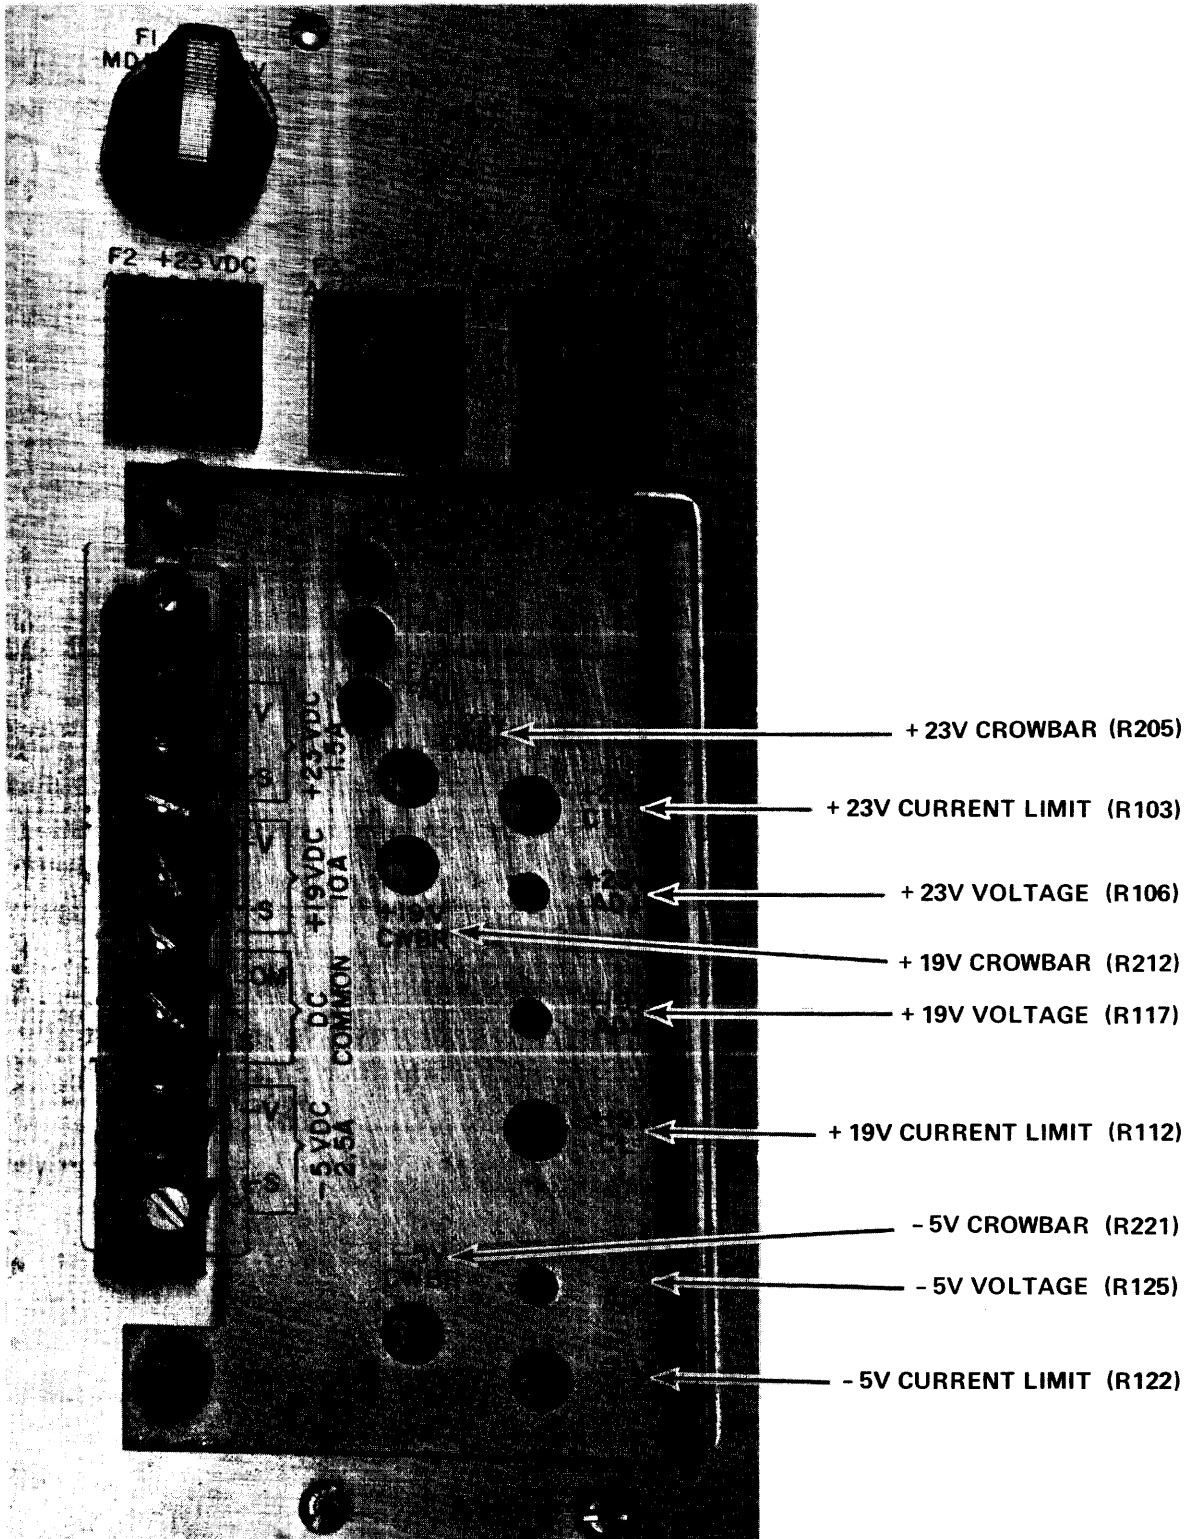

Figure 4-13. Memory Power Supply Controls
- d. Turn each of the three CWBR (Crowbar) controls three turns counterclockwise. Refer to figures 4-13 and 4-14. The locations and reference numbers for these controls differ somewhat in the older and newer versions of the supply. Use whichever of the two illustrations is appropriate.